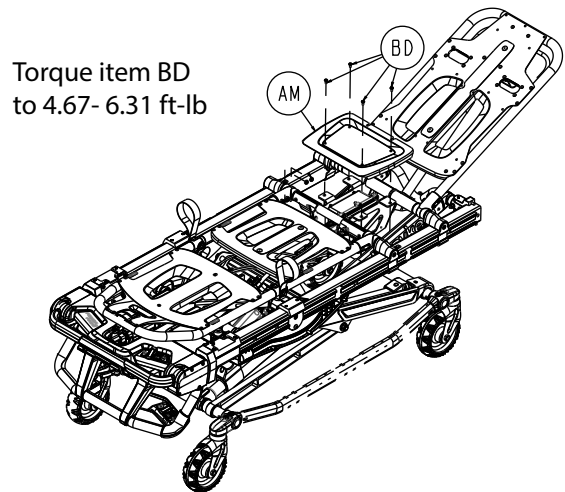

Figure 80 – Remove the screws and seat skin
22. Using a T25 Torx driver, remove the four pan head thread rolling screws (BD) that secure the seat skin (AM) to the cot (Figure 80). Remove and save the seat skin. Save the screws.